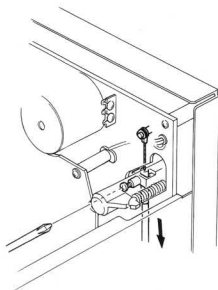

Fig. 5.20.2
(2) With pushing the Eject Arm by hand, loosen the screw and then pull the Eject Wire in the direction of the arrow until it stops as shown in Fig. 5.20.2.
(3) Tighten the screw, then apply a quantity of lock tight paint.